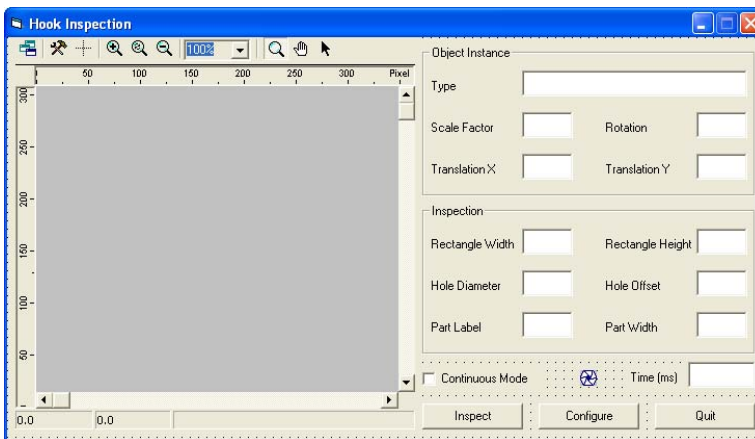

Figure 74 Visual C++ Dialog for Tutorial 6
1. On your application dialog, add one edit box. Name it **IDC_EDIT_PART_WIDTH**. Add a proper label for your edit box. Set everything to appear as illustrated in Figure 74.